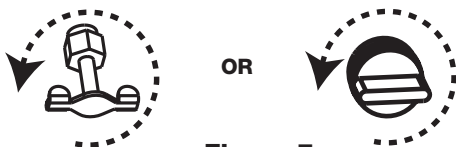

Figure 7
1. Open the fuel shut-off valve. Turn counter clockwise until the valve stops. See Figure 7.
1. Open the fuel shut-off valve. See Figure 7.